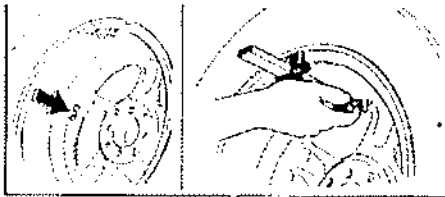

Figure 2
- With the correct weight value required positioned in the external jaw (g), hold the base (a) at the wheel flange in the 12 o'clock position, and with the extruder (f), attach the weight. (FIG. 2)